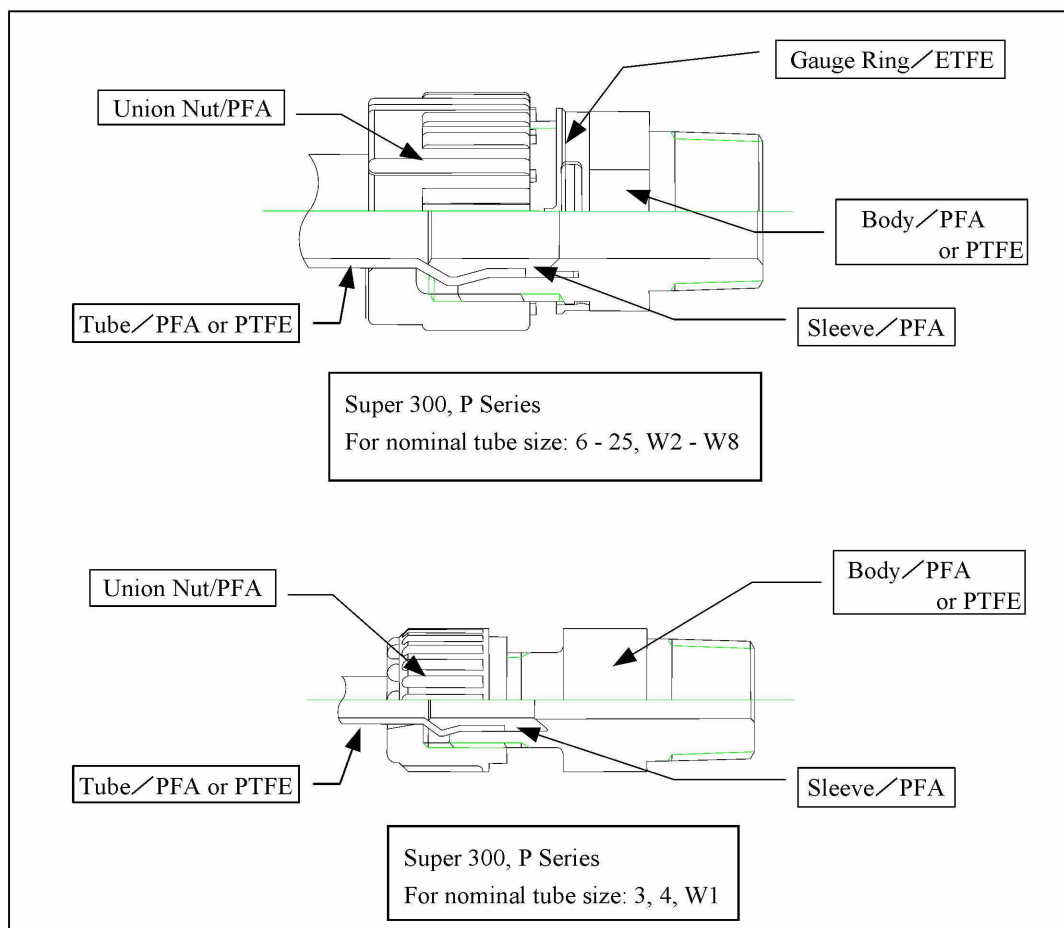

Fig. 1 - Structure of P series Super 300 Type Pillar Fitting
- The P series Super 300 Type Pillar Fitting consists of a body, sleeve, union nut and gauge ring (see Fig. 1). However, the fittings for the tubes of nominal sizes 3, 4, and W1 are not provided with a gauge ring.